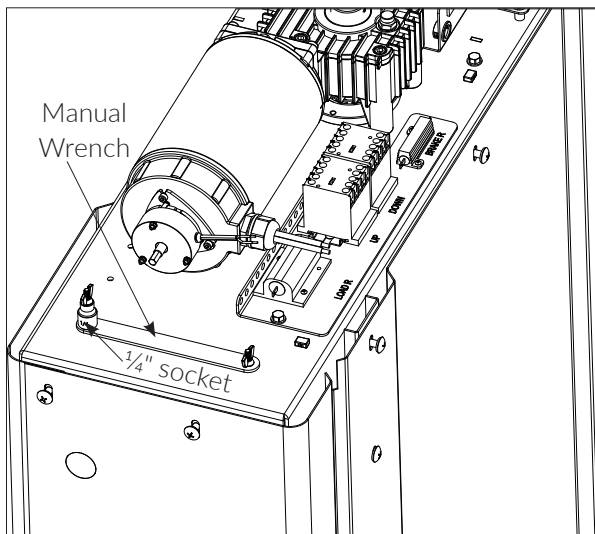

Figure 4-13
3. Remove the two wingnuts holding down the manual lowering tools ($\frac{1}{4}$ " wrench and $\frac{1}{4}$ " x $\frac{3}{8}$ " drive socket). **See Figure 4-13.**